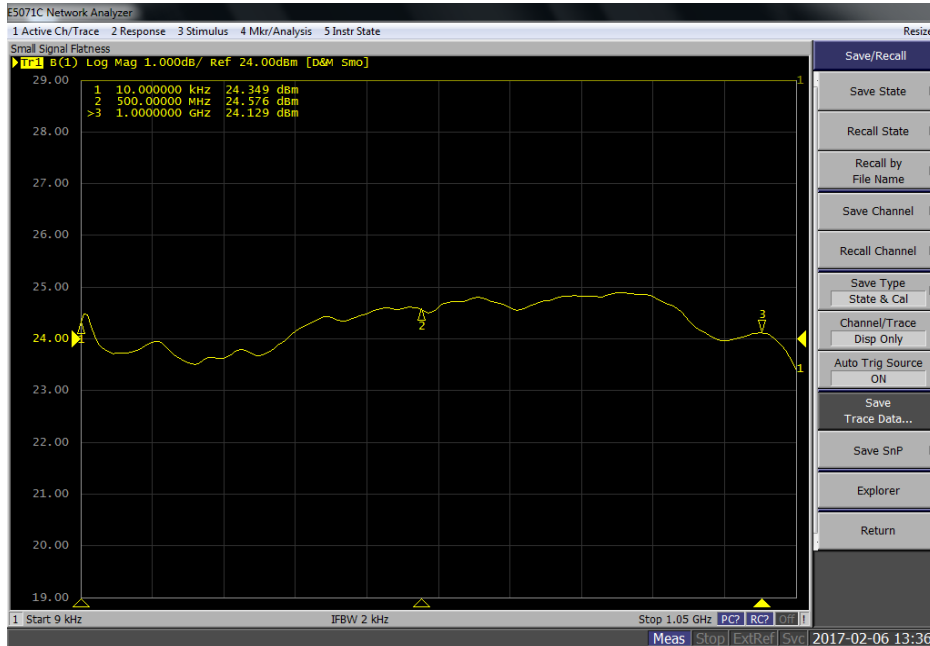
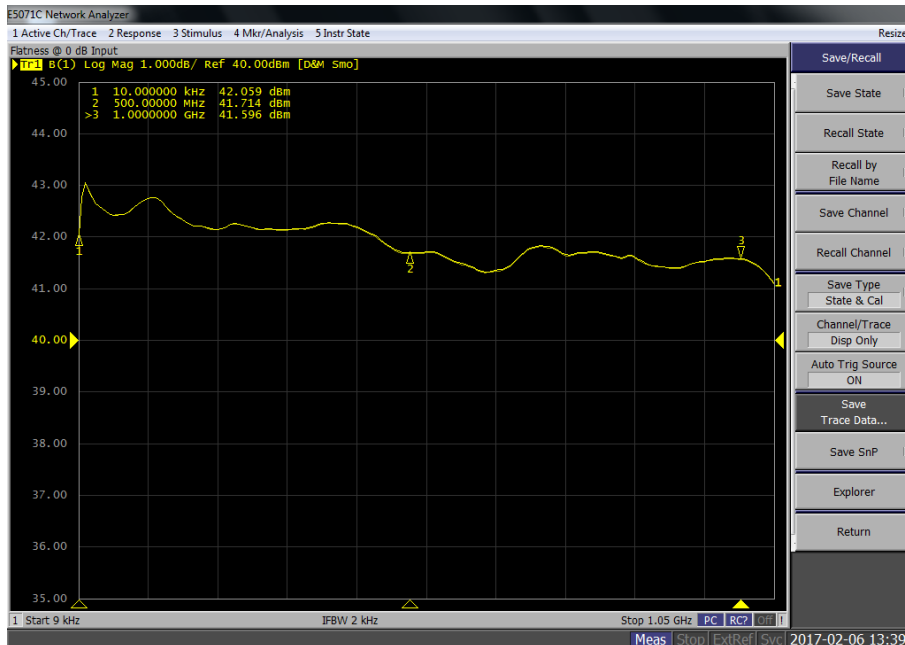

Figure 4-1. Typical Response at -20dBm Input
Figure 4-2. Typical Response at 0 dBm Input
1. The Model 10U1000’s typical gain response at -20 dBm input and 0 dBm input is shown in Figure 4-1 and Figure 4-2. The actual gain may vary considerably from that shown in Figure 4-2 but should be ≥ 40 dBm at 0dBm input.